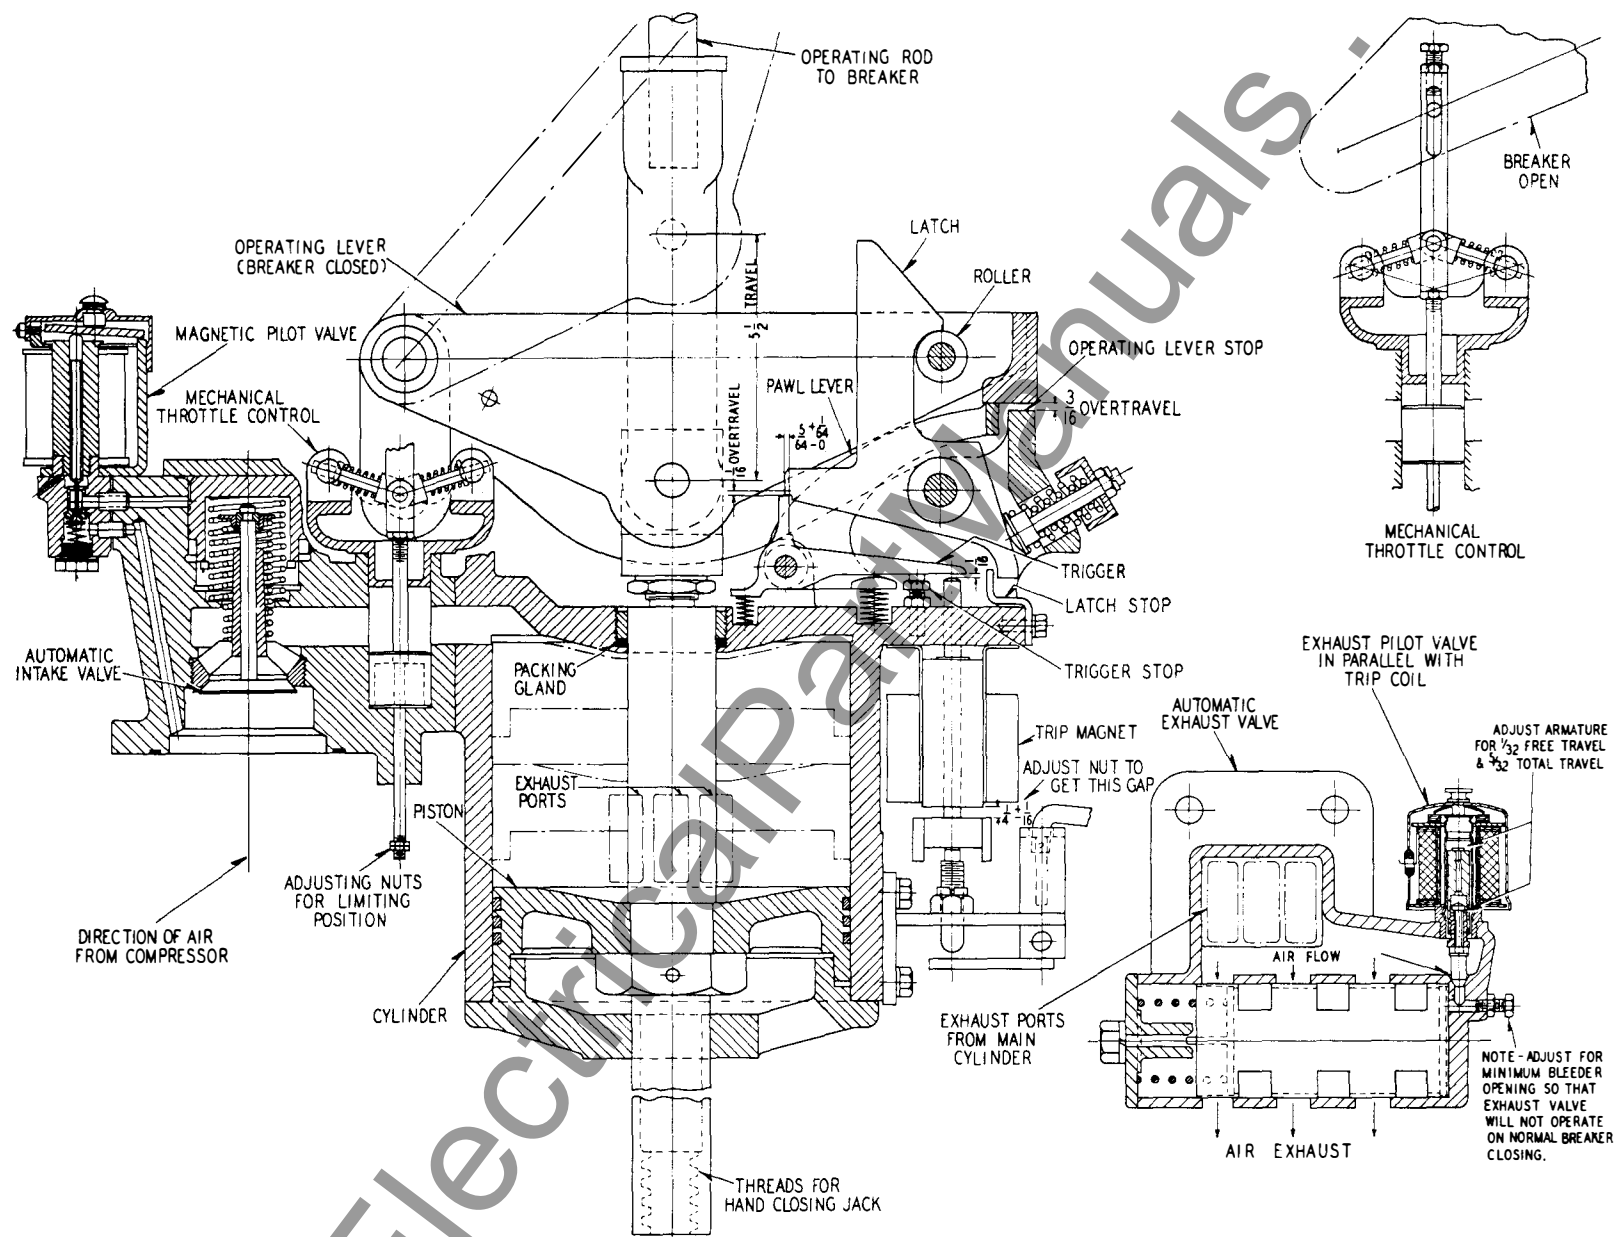
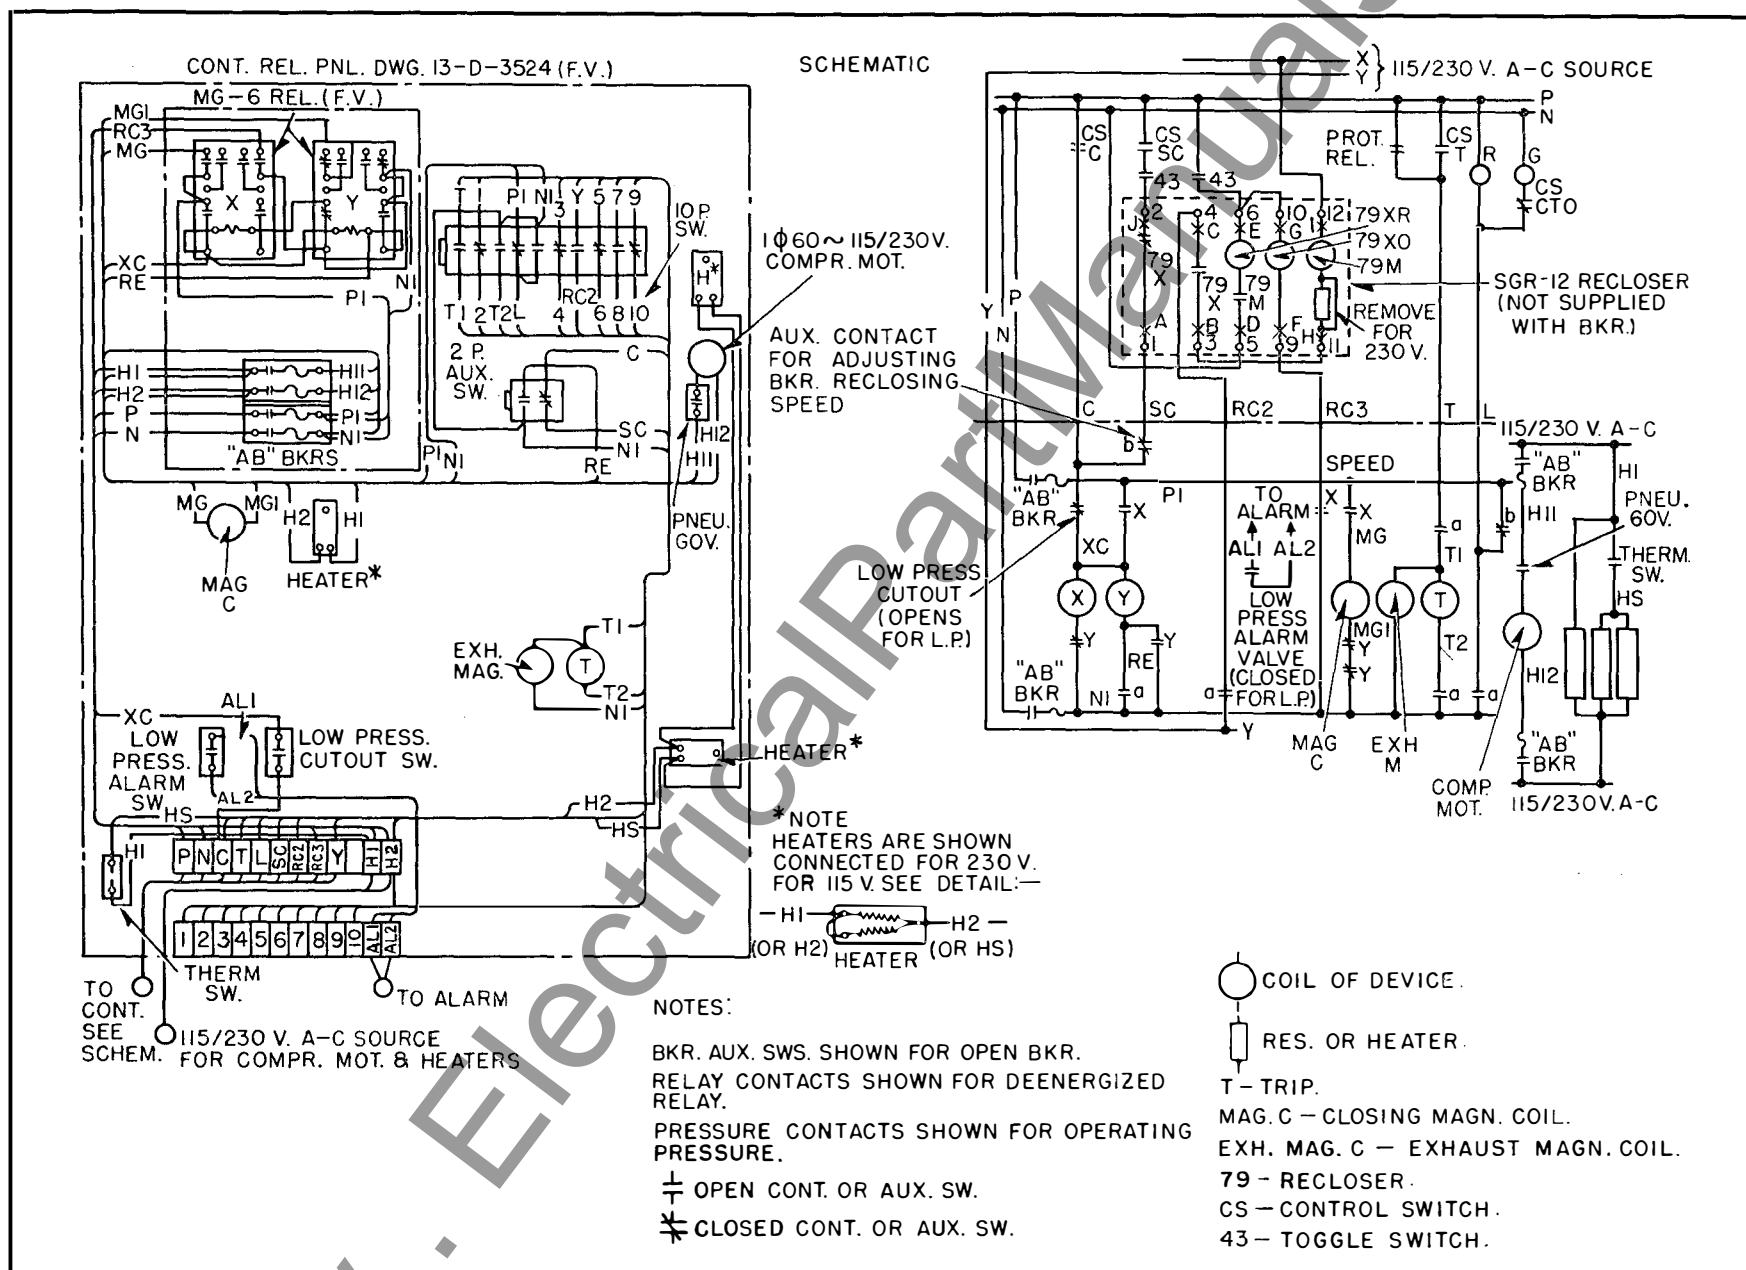
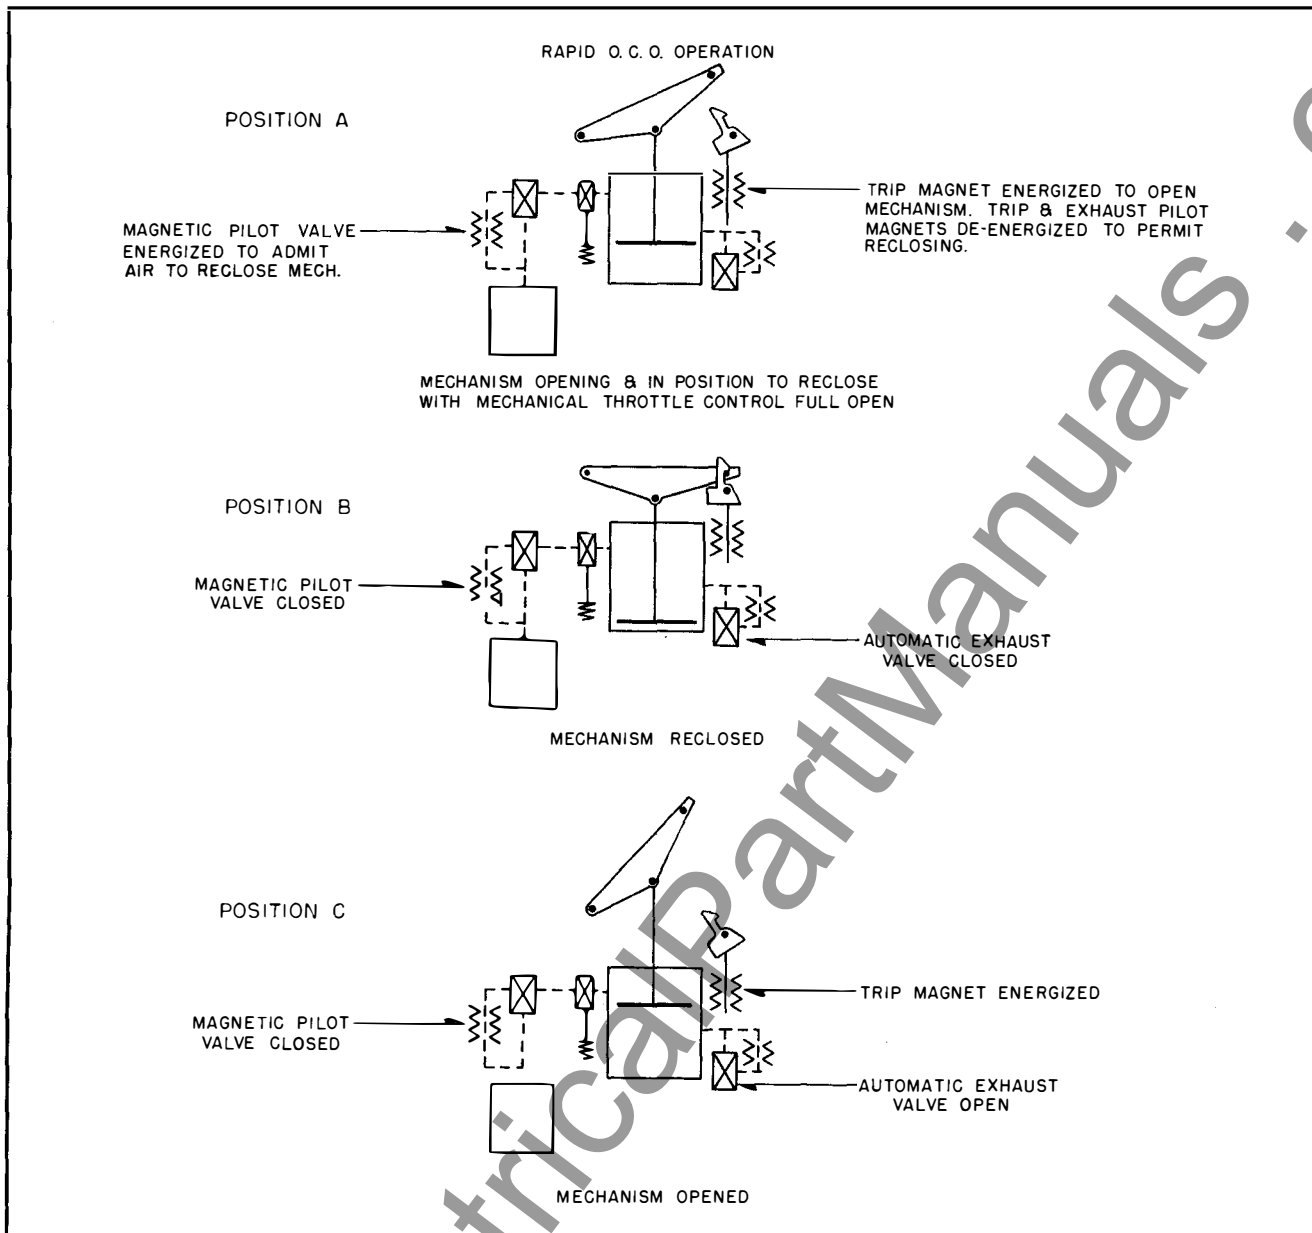

FIG. 1. Cross-Sectional View of Type CAS-8 Operating Mechanism
FIG. 3. Schematic Wiring Diagram
FIG. 6. Schematic Sequence Diagram of Rapid Reclosing Operation
Figs. 1 and 2 show the mechanism in the closed and latched position with the names of the various parts. Referring to these figures, the breaker operating rod is connected to the mechanism operating lever, which is in turn connected to the piston which operates in the cylinder of the compressed air mechanism. The main lever is connected through a link to the mechanism frame. This link allows enough lateral motion for the piston and vertical pull rod to keep their alignment throughout the opening and closing stroke of the mechanism. The trip end of the operating lever is held closed by a double latch arrangement.
**Manual Closing.** For closing the mechanism by hand, a manual closing device is available. To close the breaker, it is attached to the lower end of the piston rod which also serves as a guide for the piston (see Fig. 1). It should always be removed when the breaker is to be operated by air, or tripped from the closed position. An external tripping handle is also provided on one side of the housing.
**Simple Closing.** Starting with the mechanism in the completely open position, when the control switch on the switchboard (see diagram Fig. 3) is turned to the "close" position, the "X" contactor on the control panel closes. This energizes the magnet coil of the magnetic pilot valve (see main section view Fig. 1). This coil opens the small magnetic pilot valve, permitting air from the reservoir to flow above the automatic intake valve piston. Since the intake valve piston has an area larger than the face of the valve, the intake valve is opened when pressure is applied. This permits air to flow through the large air duct into the cylinder above the main piston which is at the top of the cylinder in the fully opened position.
**Simple Opening.** Starting with the mechanism in the closed position, when the control switch on the switchboard is turned to the "trip" position (see Fig. 3), the trip coil is energized through the two auxiliary switch "a" contacts. As the trip plunger snaps upward to strike the trigger, the latter rotates counter-clockwise about its fulcrum pin to release the latch, which is forced back by operating lever under action of the breaker accelerating spring. As the opening lever moves upward, it releases the pawl lever spring engaging the trigger, thus keeping the trigger spring compressed and the trigger in readiness for another closing operation.
**Rapid Reclosing Operation.** Fig. 3 shows a typical high speed reclosing set-up using the Westinghouse SGR-12 single-shot recloser. Also refer to schematic sequence diagram Fig. 6, starting with the breaker in service in the closed position. When a fault occurs, the protective relay causes the breaker to trip in the manner previously described. As the breaker begins to move toward the open position, the trip coil and exhaust pilot coil are de-energized by the two "a" contacts (see Fig. 3) which are in series. The mechanism is now ready for reclosure.
If the fault no longer exists on the line, the breaker will remain in the closed position after opening and reclosing. (Position B, Fig. 6).
If the fault still exists on the line, the protective relay will cause the breaker to trip again and the action of the exhaust valve will cause all high pressure air to be exhausted from the cylinder, allowing the breaker to open unhindered under action of its accelerating spring. (Position C, Fig. 6).
A check on these adjustments before placing in service, on periodic inspections, or if trouble is experienced, can be made very easily. Refer to Fig. 1. With the air and control voltage shut off, attach the hand closing jack and close the breaker slowly until the latch nose is directly opposite the
should be  $5/64''$ — $6/64''$  as indicated on Fig. 1, and may be adjusted by screwing the trigger stop in or out. With the jack just snug and ready to take the load check to see that the trip plunger has  $1/32''$  to  $1/16''$  free travel before striking the trigger, and when raised up all the way that there is approximately  $1/32''$  clearance for the heel of the latch to slide down along the trigger. Close the mechanism completely so that the main lever rests against the mechanism stop and check to see that the pawl lever has  $1/16''$  additional travel.
With the breaker open, check the overtravel of the latch as indicated on Fig. 1. This vertical clearance between the latch and trigger should be be-
tween 1/32"—1/16", and may be adjusted by shimming or bending the stop (see Fig. 1) for the latch. This is a high speed mechanism and these adjustments should be maintained if satisfactory operation is to be expected.
It has already been pointed out that the breaker reclosing time is primarily determined by setting of the "b" contact (see diagram Fig. 3) which is a special contact on the 2-pole auxiliary switch. The pressure setting of the pneumatic governor also affects the breaker reclosing time, and should be adjusted to settings given on nameplate. The adjusting screw at the right on top of the governor switch controls the cut-off point, while the screw at